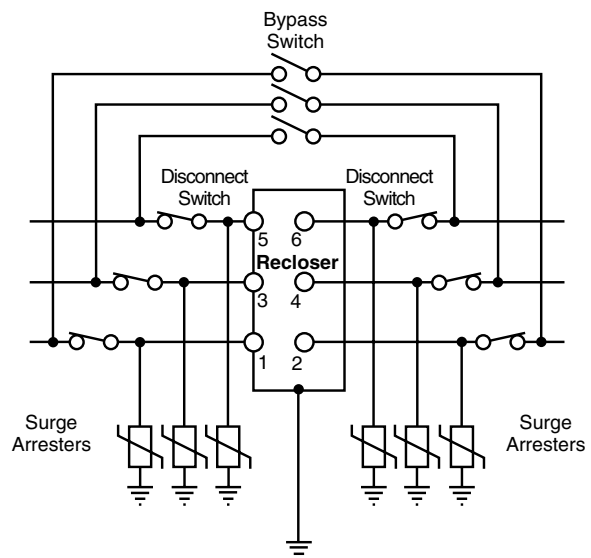

Figure 8. Connection diagram shows complete surge protection and illustrates bypass and disconnect switches.
6. Make high-voltage line connections (refer to Figures 8 and 9).
B. Provide surge arrester protection. Surge arrester protection should be provided on both sides; refer to Figure 8.